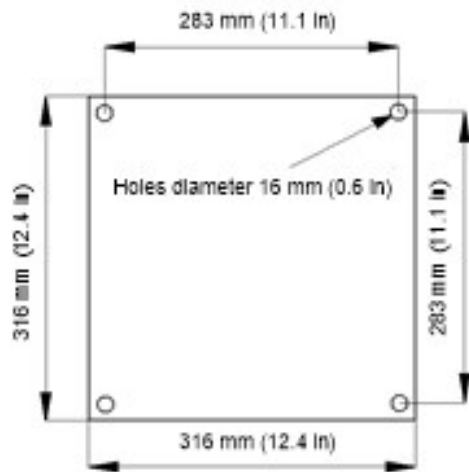

Figure 4-1. Mounting base footprint
Mount the SkyVue PRO by bolting to a firm, level foundation. When bolting down, ensure the SkyVue PRO can tilt in all desired directions. Figure 4-1 (p. 17) shows the mounting footprint. If a suitable surface does not already exist, construct a concrete foundation, at least 600 mm (23.6 in) square and 600 mm (23.6 in) deep, by using the following procedure:
1. Drill four 12 mm (0.47 in) diameter holes using the mount base as a template (see Figure 4-1 [p. 17]) to a depth of 77 mm (3.03 in).